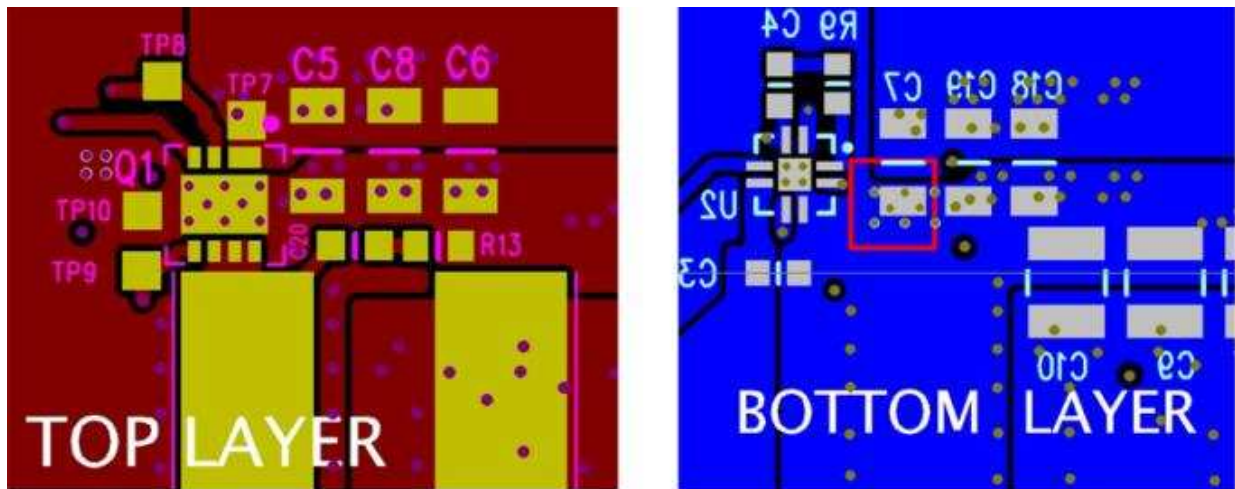

Figure 33. Recommended PCB Layout (Top Down)
- The placement of the input capacitors relative to the powerblock's VIN and PGND pins should have the highest priority during the component placement routine. It is critical to minimize these node lengths. As such, ceramic input capacitors need to be placed as close as possible to the VIN and PGND pins (see Figure 33). The example in Figure 33 uses 6 \times 10- μ F ceramic capacitors (TDK Part # C3216X5R1C106KT or equivalent). Notice there are ceramic capacitors on both sides of the board with an appropriate amount of vias interconnecting both layers. In terms of priority of placement next to the power block, C5, C7, C19, and C8 should follow in order.
- The switching node of the output inductor should be placed relatively close to the power block VSW pins. Minimizing the node length between these two components will reduce the PCB conduction losses and actually reduce the switching noise level. In the event the switch node waveform exhibits ringing that reaches undesirable levels, the use of a boost resistor or RC snubber can be an effective way to easily reduce the peak ring level. The recommended boost resistor value will range between 1 Ω to 4.7 Ω depending on the output characteristics of driver IC used in conjunction with the power block. The RC snubber values can range from 0.5 Ω to 2.2 Ω for the R and 330 pF to 2200 pF for the C. Please refer to Snubber Circuits: Theory, Design and Application (SLUP100) for more details on how to properly tune the RC snubber values. The RC snubber should be placed as close as possible to the Vsw node and PGND (see Figure 33).⁽¹⁾
- (1) Keong W. Kam, David Pommerenke, "EMI Analysis Methods for Synchronous Buck Converter EMI Root Cause Analysis", University of Missouri – Rolla
- Use the smallest drill size allowed in your design. The example in Figure 33 uses vias with a 10-mil drill hole and a 16-mil capture pad.